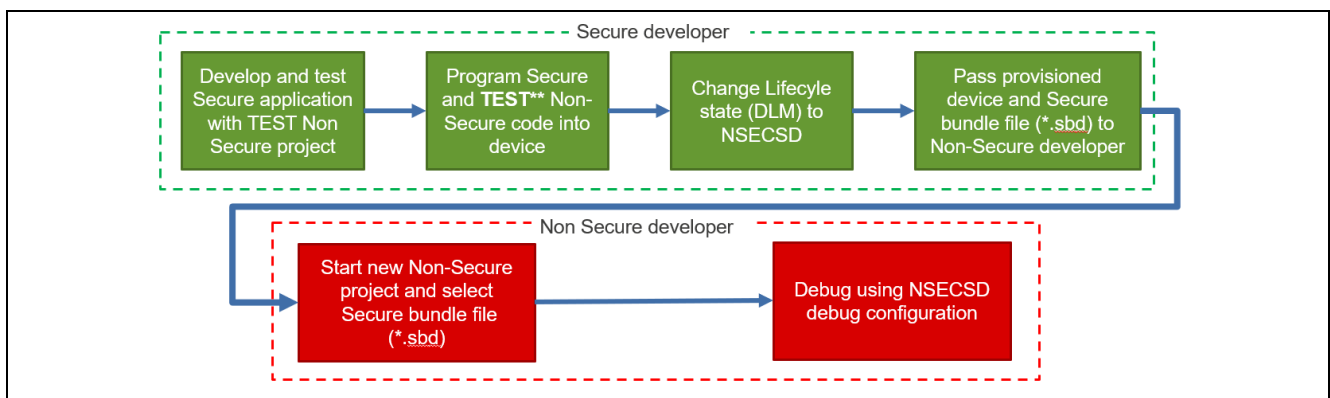

Figure 43. Development Flow for Developing in NSECSD State
- See Figure 43 for details on the general flow to support Non-secure project development in the NSECSD state.
For the Split Project Development Model, the Non-secure application developer receives the MCU in the NSECSD state. As mentioned towards the end of the last section, special handling is needed to enable development in the NSECSD state. Figure 43 is a summary of the general flow of development in the NSECSD state.